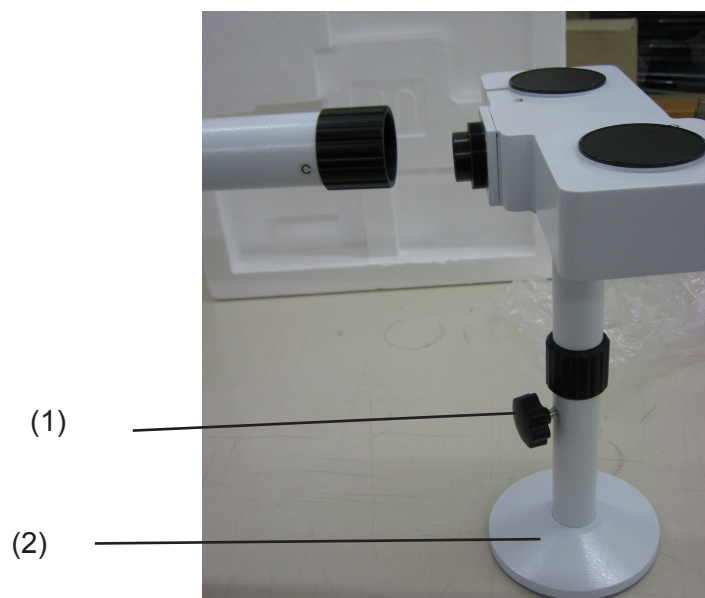

Fig. 7
- 2.8** Adjust the height of the multi-head holder. Loosen the base fixing knob (1), unscrew the base (2) in order to reach the desired height, then lock the knob. (Fig. 7).